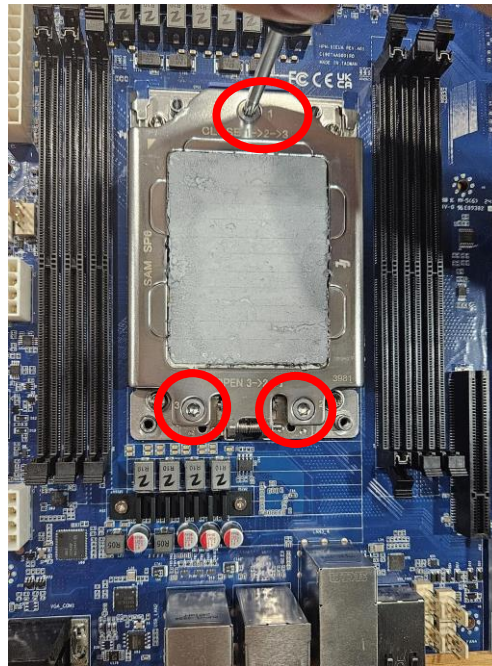

Figure 9
B. Press Retention Frame and then tighten the captive screw with T20 screwdriver. (Figure 9)